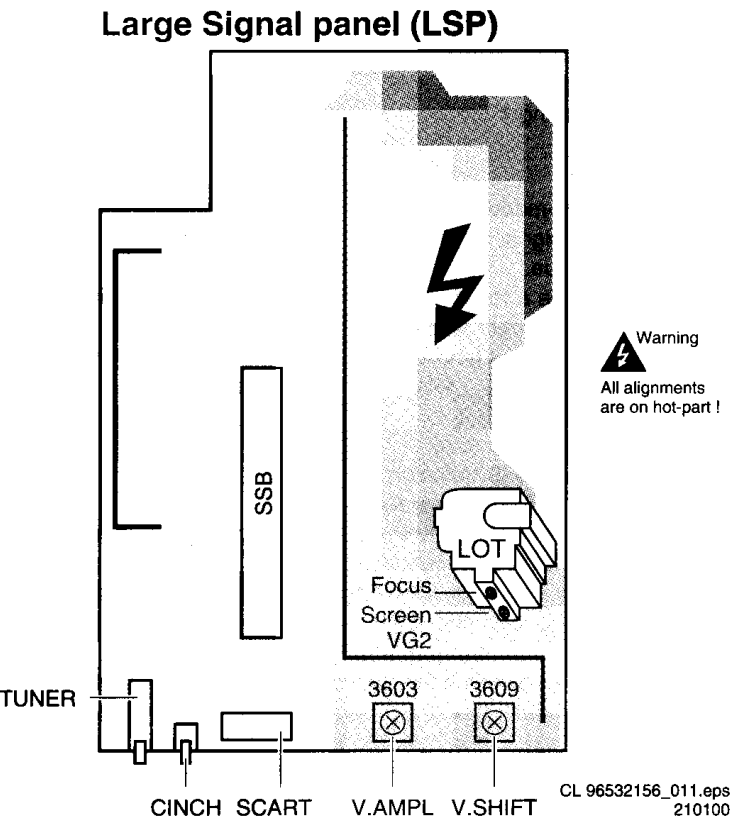

Figure 8-1
2. Adjust the Focus potentiometer (upper potmeter, see figure 8-1) for an overall optimum focusing of the picture.
4. Adjust the Vg2 potentiometer (lower potmeter, see figure 8-1) so that the measuring pulse with the highest noted level is on  $160 \pm 3 V_{DC}$  level.
2. Align the vertical amplitude with R3603 (see Fig. 8-1) so that the complete test pattern is visible.
2. Align the vertical centering with R3609 (see Fig. 8-1) so that the test pattern is located vertically in the middle.